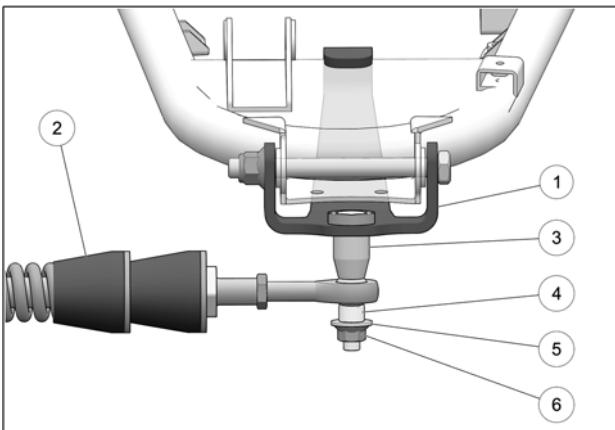

Fig. 11
10. Attach stabilizing rod (2) to anchor bracket (1), using long spacer bushing (3), short spacer bushing (4), flat washer (5) and nut (6). Torque to 70 N·m [52 lb·ft]. See Fig. 11